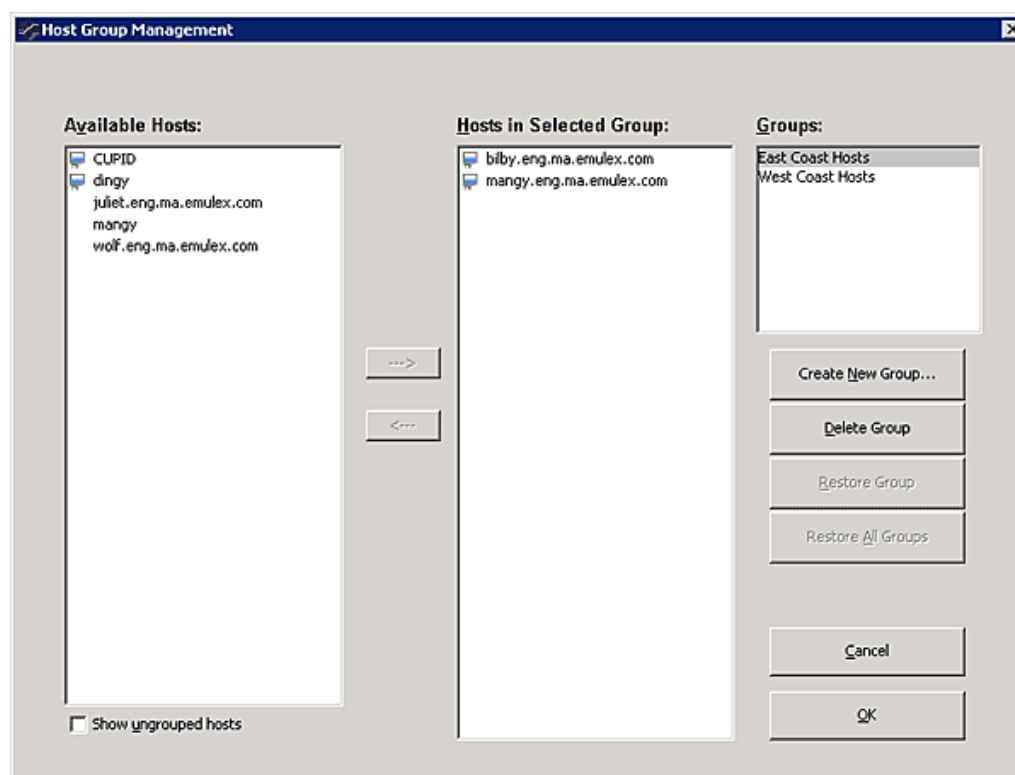

Figure 6-3 Host Group Management Dialog Box
Use the Host Group Management dialog box (Figure 6-3 on page 61) to create and delete host groups, add and remove hosts, and restore host groups.
1. From the **View** menu, select **Manage Groups**. The Host Group Management dialog box appears (Figure 6-3 on page 61).